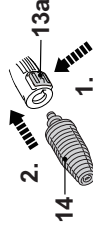

Fig. 13
2. Press the unlock button (13a) and attach the rotary nozzle (14) to the extension lance (13). Release the button (13a) to secure the nozzle in place (Fig. 13).
3. Check if the nozzle (14) is attached properly by pulling on it. It should not pull out.